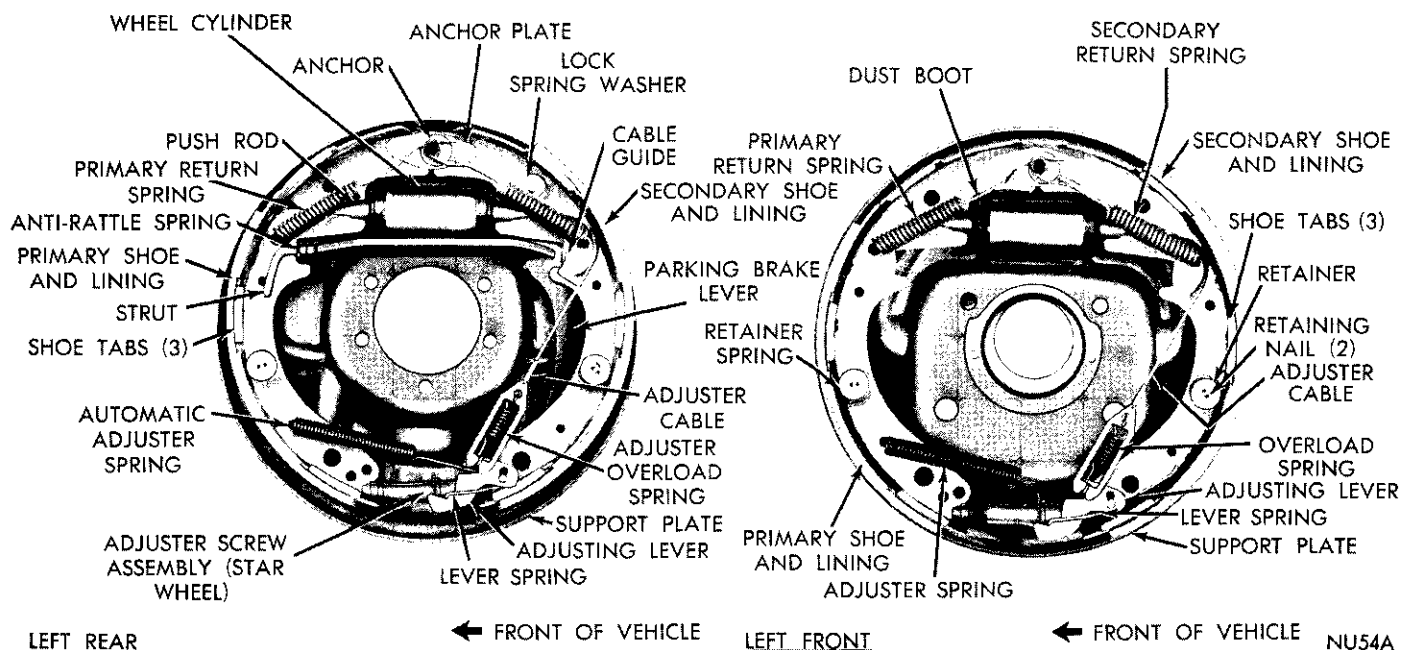
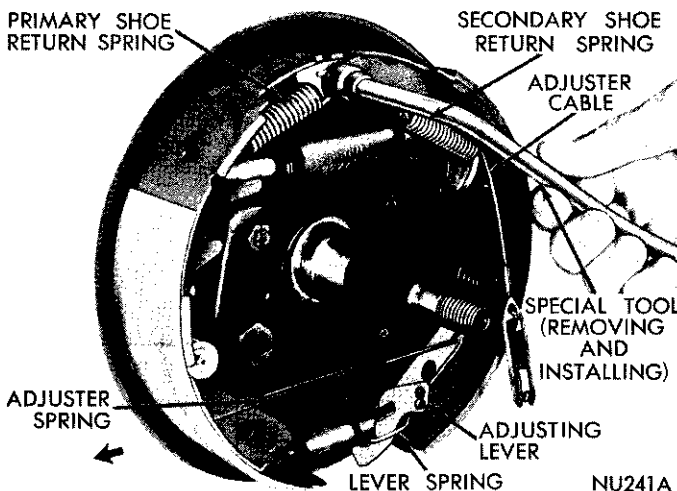
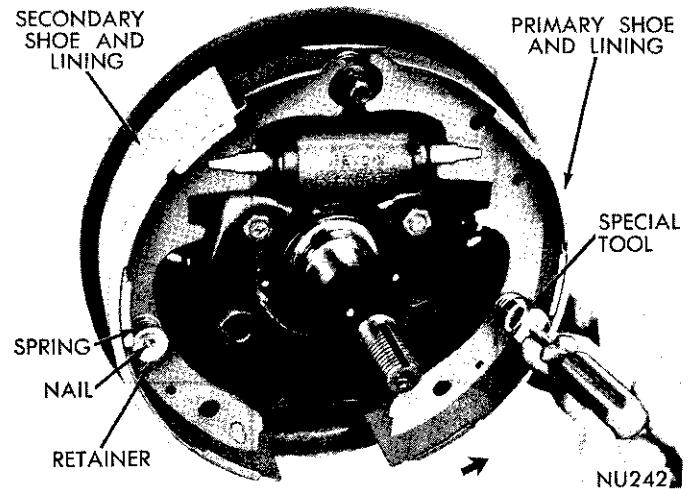
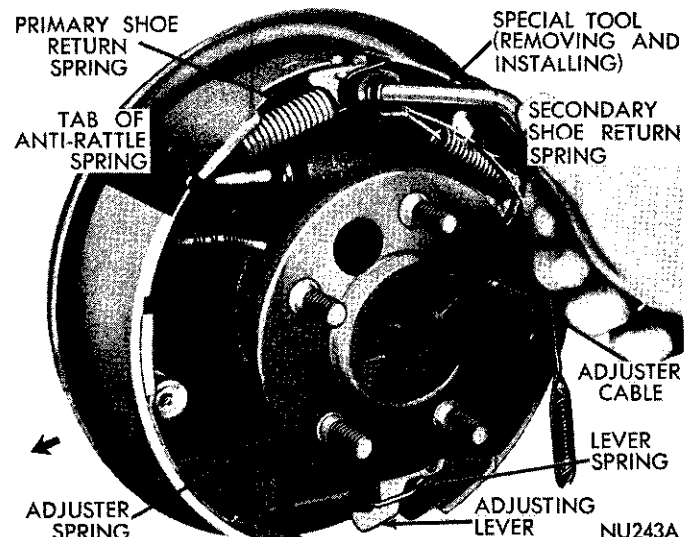

Fig. 1—Brake Assemblies
Fig. 2—Removing or Installing Shoe Return Springs (Left Front)
Fig. 3—Removing or Installing Shoe Retainers, Springs and Nails (Right Front)
Fig. 4—Removing or Installing Shoe Return Springs (Left Rear)
(4) Remove wheel cover, grease cap, cotter pin, lock, adjusting nut, outer wheel bearing and remove wheel and drum assembly from spindle to expose brake linings (Fig. 1).
(5) Inspect brake lining for wear, shoe alignment, or contamination from grease or brake fluid.
(4) Remove rear wheel and clips from wheel studs that hold drum on axle. Discard clips. Remove drum.
(5) Inspect brake lining for wear, shoe alignment or contamination from grease or brake fluid. (Fig. 1).
(1) Using Tool C-3785 remove brake shoe return springs (Fig. 2). (Note how secondary spring overlaps primary spring). (Fig. 1).
(2) Slide eye of automatic adjuster cable off anchor and unhook from adjusting lever. Remove cable, overload spring, cable guide and anchor plate.
(3) Disengage adjusting lever from spring by sliding forward to clear pivot, then working out from under spring. Remove spring from pivot. Remove automatic adjuster spring from secondary shoe web and disengage from primary shoe web. Remove spring.
(4) Remove brake shoe retainers, springs and nails, using Tool C-4070, (Fig. 3).
(5) Disengage primary and secondary shoes from push rods and remove from support. Remove adjusting star wheel assembly from shoes.
(1) Using Tool C-3785, remove brake shoe return springs (Fig. 4). (Note how secondary spring overlaps primary spring). (Fig. 1).
(2) Slide eye of automatic adjuster cable off anchor and then unhook from adjusting lever. Remove cable, overload spring, cable guide and anchor plate.
(4) Remove brake shoe retainers, springs and nails